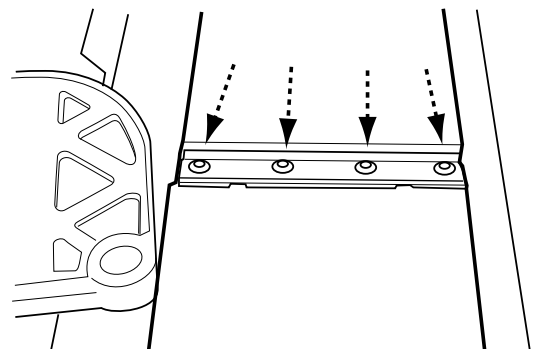

FIGURE 8
6. Loosen the four screws securing the clamp bar to the cutterhead. See Figure 8.